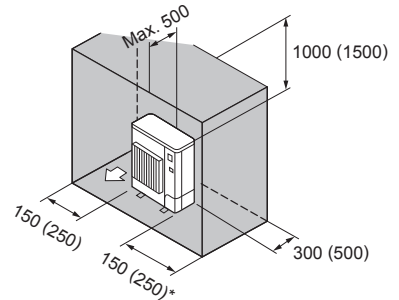

Fig. 2-11
- ⑥ Obstacles at rear, sides, and above only (Fig. 2-11)
(3) When installing multiple outdoor units (Refer to the next page)